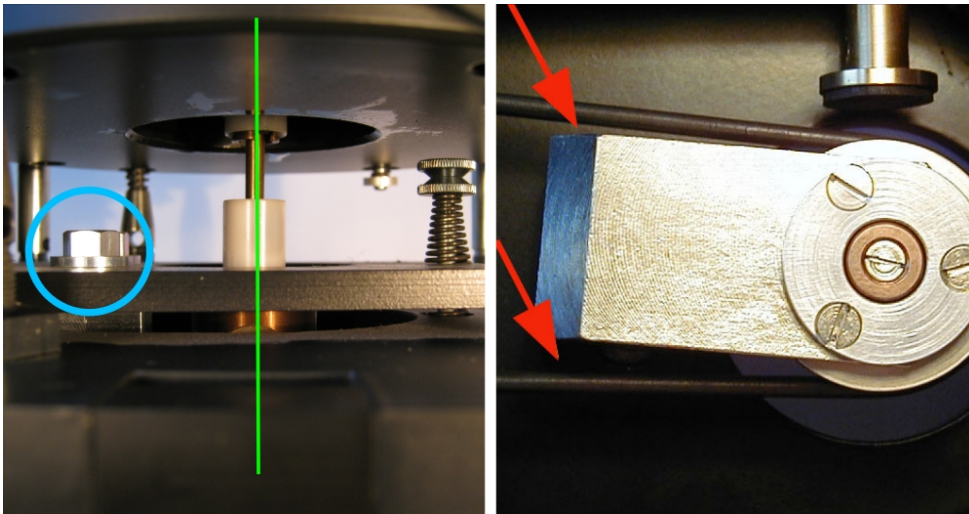

Figure 22: Setting the cardan shaft
- In ideal situation, axis of the cardan is coaxial with the specimen holder. Correct alignment of cardan is marked by green line in Fig. 22, left.
- Loosen two screws marked by the blue circle in Fig. 22 (left), adjust the cardan position and tighten the screws. It is better to dismantle driving belt during this operation.
- Check if the drive belt does not touch the pulley bearing box located in bottom side of the Pick-Up Unit (see Fig. 22, right).